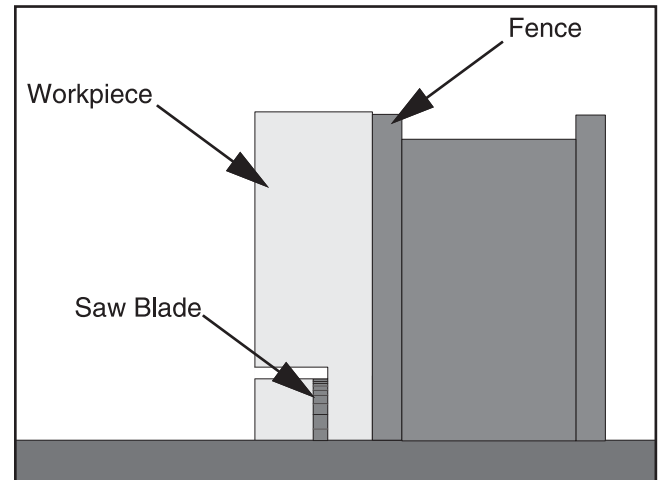

Figure 33. Second cut to create a rabbet.
8. Stand the workpiece on edge as shown in **Figure 33**.